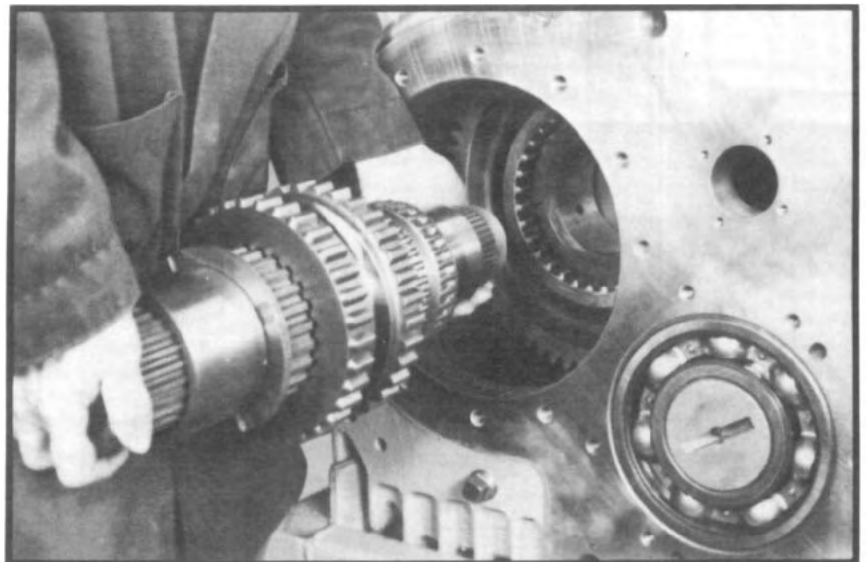

Fig. 115
- 2.6 Install lower shaft assembly into housing through rear bore. (See fig. 115.) Insert shaft assembly into underdrive gear. As shaft assembly enters the front bore, place the thrust washer over front of shaft and against underdrive gear. Place flat side of washer against underdrive gear.